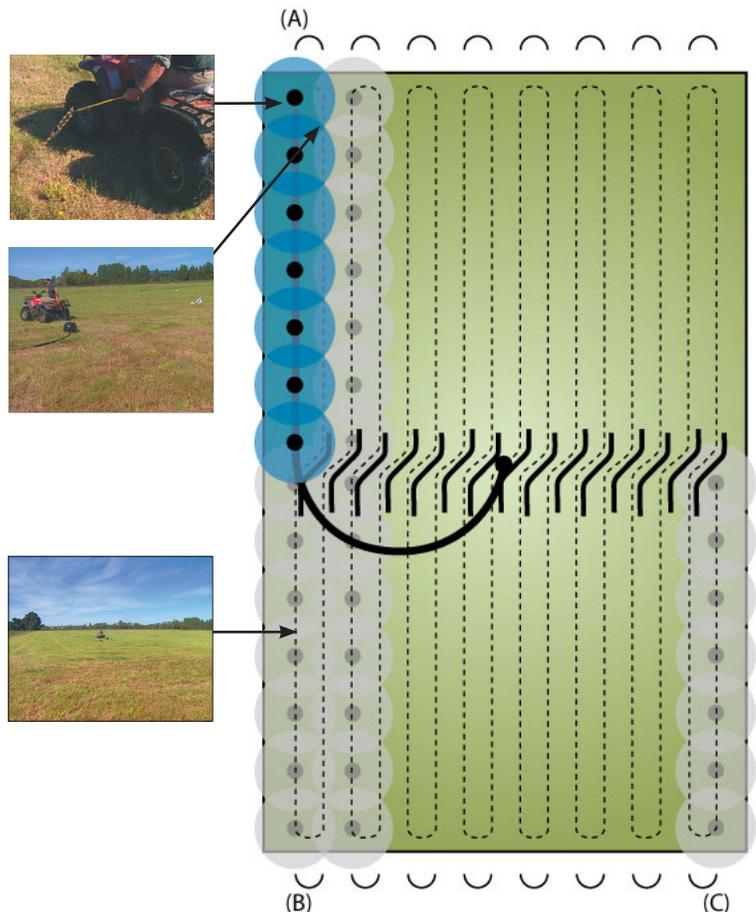

FIG 2
Go to the far end of the sprinkler line (point (A) in FIG 2). While still on your bike slow down facing the direction you intend to go. In one easy movement, hook onto the sprinkler line, line yourself up with the marker at the other end of the paddock (point (B)) and drive to the other end. Unhook and repeat shifting process in the next paddock.